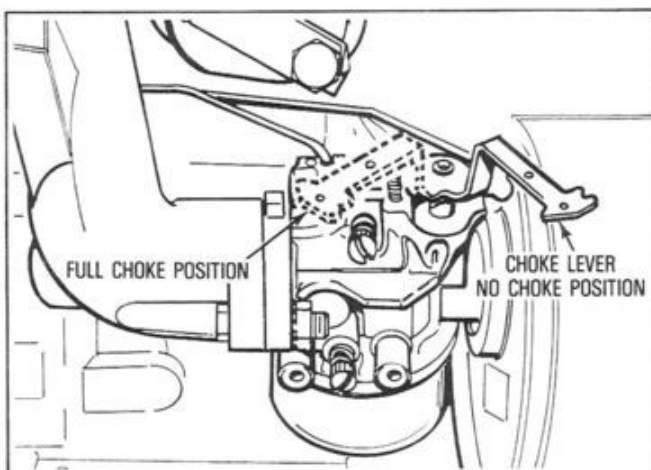

Figure 3
- ① **COLD ENGINE START** (Engine has not been run recently).
A. Move CHOKE LEVER on engine (see Figure 3) or remote control on equipment to FULL CHOKE POSITION.
B. Crank engine until engine fires and when engine starts, move CHOKE LEVER (see Figure 3) on engine or remote control on equipment to 1/2 choke and then to NO CHOKE POSITION.
- Move **CHOKE LEVER** (see Figure 3) on engine or remote control on equipment to **NO CHOKE POSITION**.